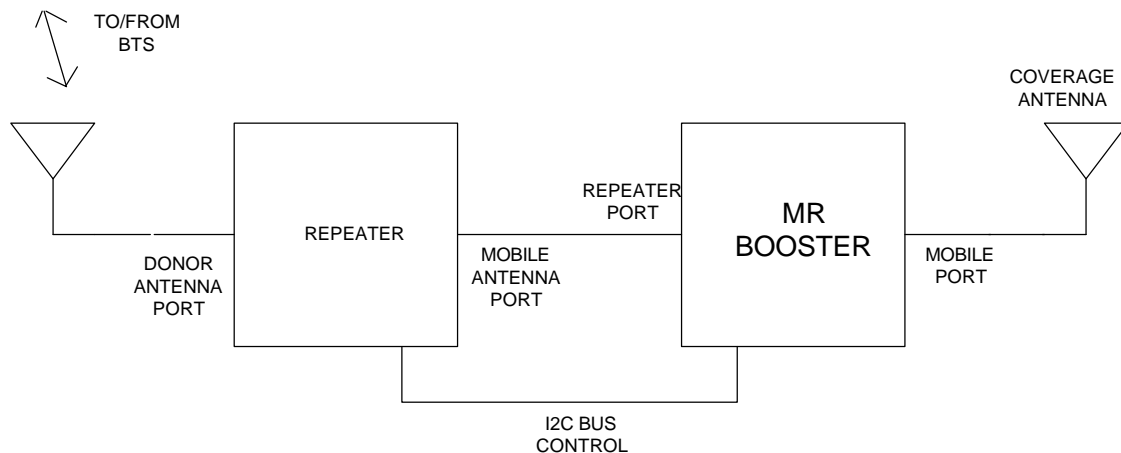

Figure 3-5. Typical MR Booster application (repeater)
Several connections are made through the I/O panel on the bottom of the repeater. Figure 3-5 shows the position of applicable connectors.
Refer to Figure 3-5 for an example of an application in which the MR Booster is used to boost a repeater. For additional information regarding system optimization, please contact Mikom technical support at 1 (800) 800-7465.